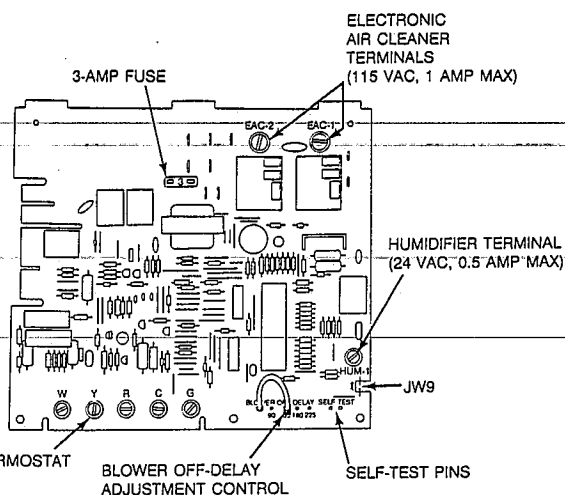

Figure 9—Blower Control Center
1. Self-test—The furnace features a self-test system to help diagnose a system problem in the case of a component failure. Two test pins (ST-1 and ST-2) are located in the lower left-hand corner of the control board as shown in Figure 9. To initiate the self-test procedure, momentarily short across the two pins (approximately 0.5 seconds).